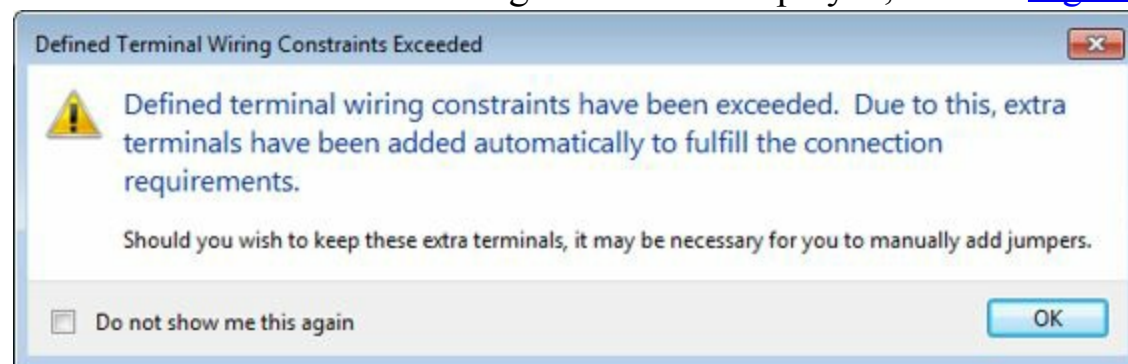

Figure-25. Defined Terminal Wiring Constraints Exceeded dialog box
- Select the entry that you want to edit in this table and click on the **Edit** button. If the number of terminals in the current drawing exceed the number of wires then the **Defined Terminal Wiring Constraints Exceeded** dialog box will be displayed; refer to Figure-25.